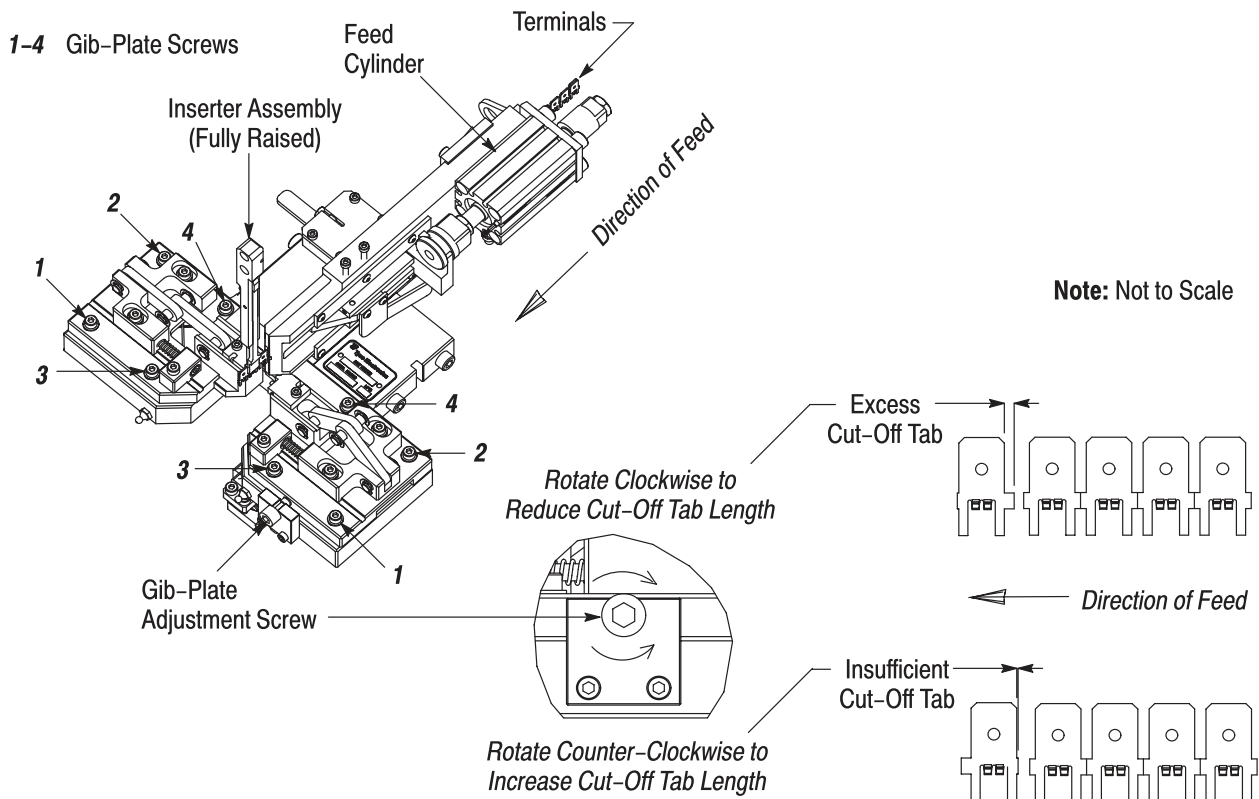

Figure 14
5.9. Shear and Die Position (Terminal Cut-Off Tab) Adjustment (See Figure 14)